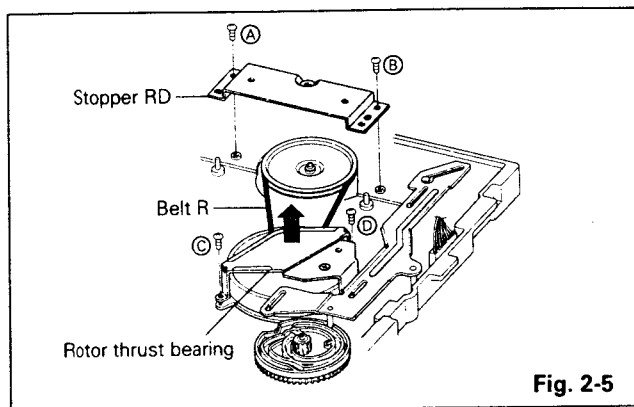

Fig. 2-5
- Remove the two screws (A) and (B) retaining the stopper-RD as shown in Fig. 2-5.
- Remove the two rotor thrust bearing retaining screws (C) and (D) as shown in Fig. 2-5.
- Lift the rotor thrust bearing a little and remove the belt R as shown in Fig. 2-5.